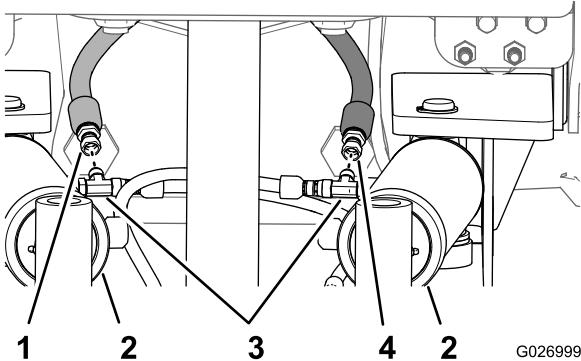

Figure 50
- Place a rag over the pivot-cylinder hoses and loosen the swivel nuts (Figure 50).
- Switch the position of the 2 hoses to the T-fitting of the opposite pivot cylinders (Figure 50).